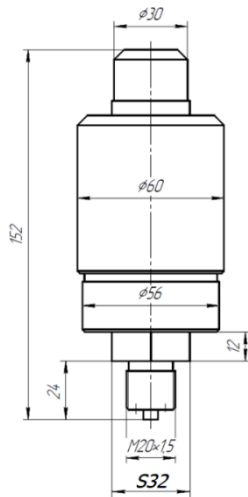

Figure 2. Overall dimensions of the TP-140D(R) Pressure Transducer
- Basic dimensions at the processing facilities correspond to the dimensions of the TP-140D(R) and PS-150(RK) (see Fig. 2, 3);